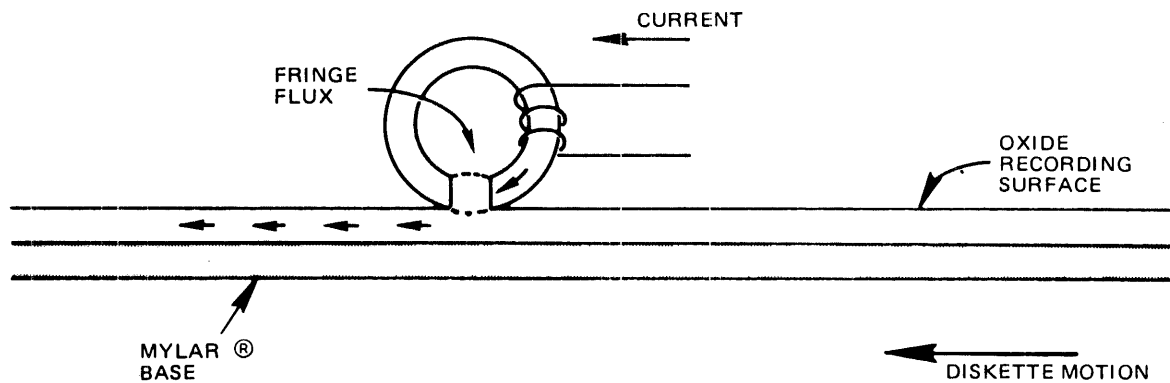

FIGURE 19. BASIC READ/WRITE HEAD
**7.2** The read/write head is a ring with a gap and a coil wound some point on the ring. When current flows through the coil, the flux induced in the ring fringes at the gap. As the diskette recording surface passes by the gap, the fringe flux magnetizes the surface in a longitudinal direction. See Figure 19.